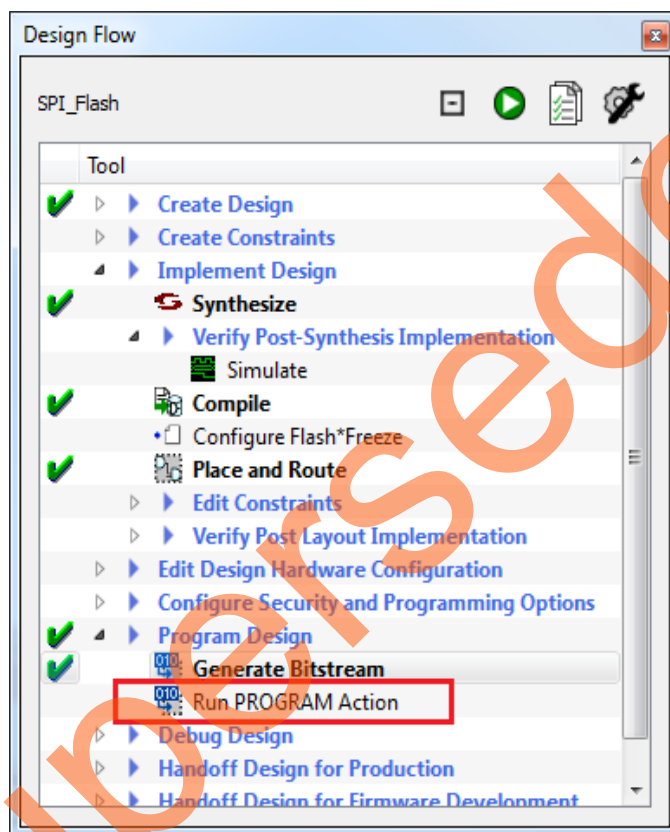

Figure 18 • Run Programming Action
1. To program the SmartFusion2 device, double-click **Run PROGRAM Action** in the **Design Flow** window, as shown in Figure 18.